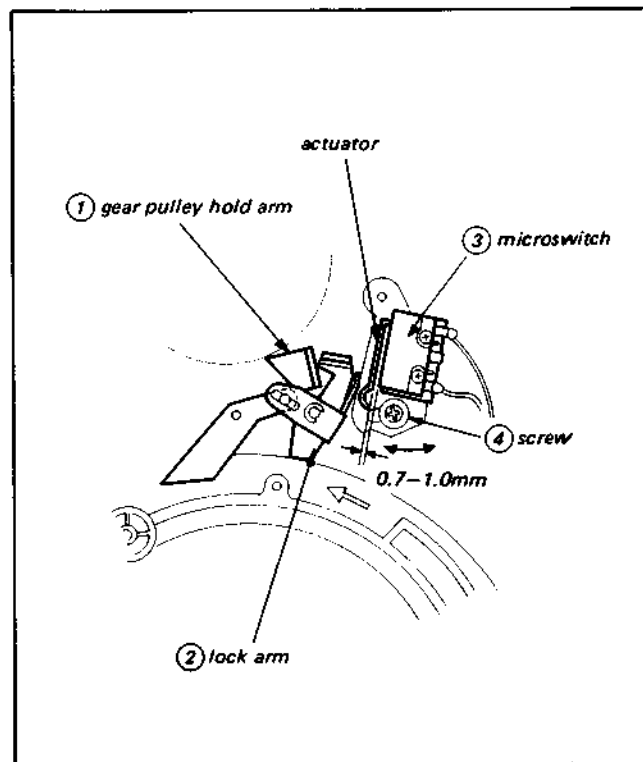

Fig. 3-37. Position adjustment of threading end switch
2. Loosen screw ④ and adjust the position of microswitch ③ so that microswitch ③ turns on before gear pulley hold arm ① moves from the groove of lock arm ②, while turning the threading ring counterclockwise (↺) slowly by hand. Confirm the turning-on of the microswitch with a click.
3. Adjust the position further so that the clearance between the actuator of microswitch ③ shown in Fig. 3-37 and the microswitch satisfies the specification (0.7mm to 1.0mm) when the threading ring is turned counterclockwise (↺) beyond the threading completion point.